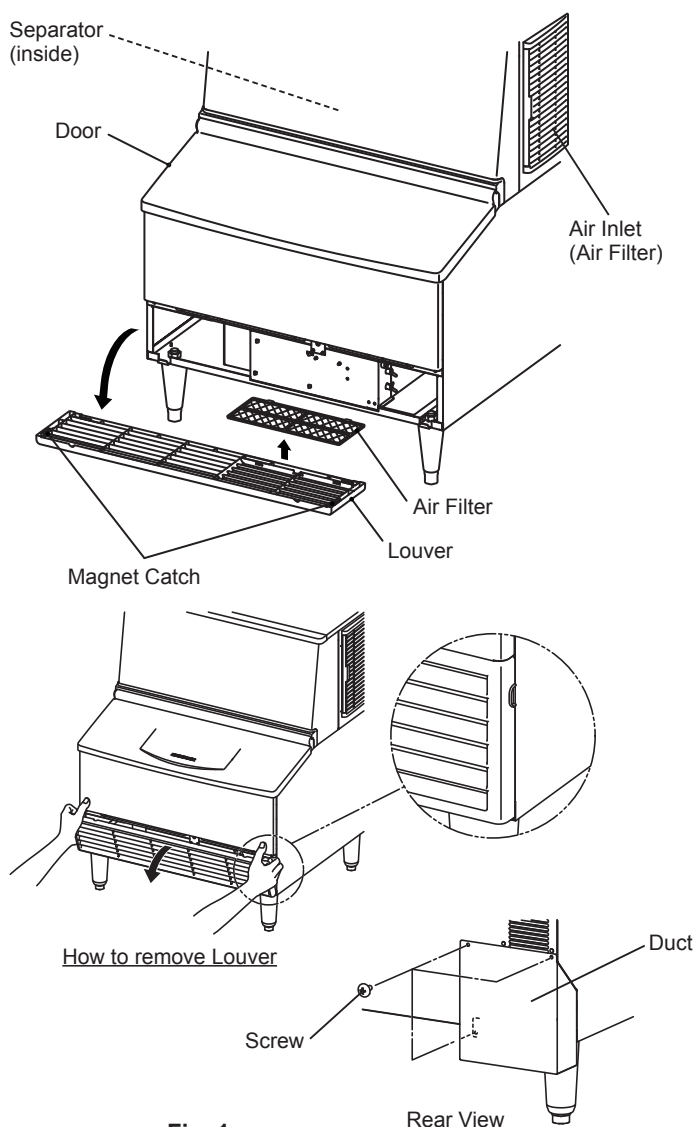

Fig. 1
- 5) Attach the duct to the rear panel using the three screws provided. See Fig. 1.